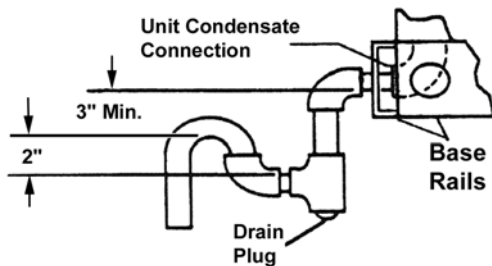

Figure 11: Condensate Drain
**NOTE:** The condensate drain operates in a negative pressure in the cabinet. The condensate drain line MUST be trapped to provide proper drainage. See Figure 11.